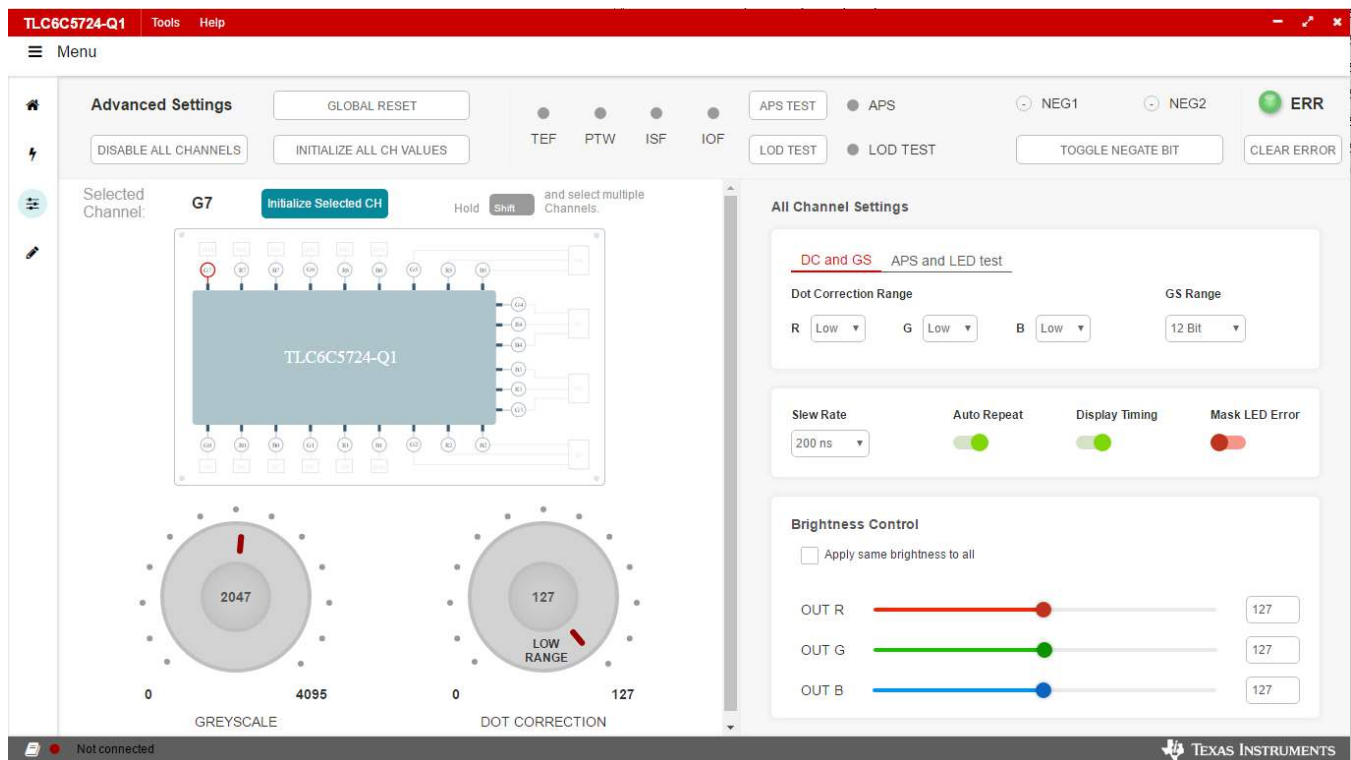

Figure 6. Advanced Settings Page
The *Advanced Settings* page (Figure 6) provides more register configuration features. GLOBAL RESET resets the TLC6C5724-Q1 internal registers, meaning all registers values are set to 0 except the *Mask LED Error* bit is set to 1. INITIALIZE ALL CH VALUES turns on all channels with 50% greyscale (GS), dot correction, and brightness control values. GS and dot correction channels can be adjusted separately.